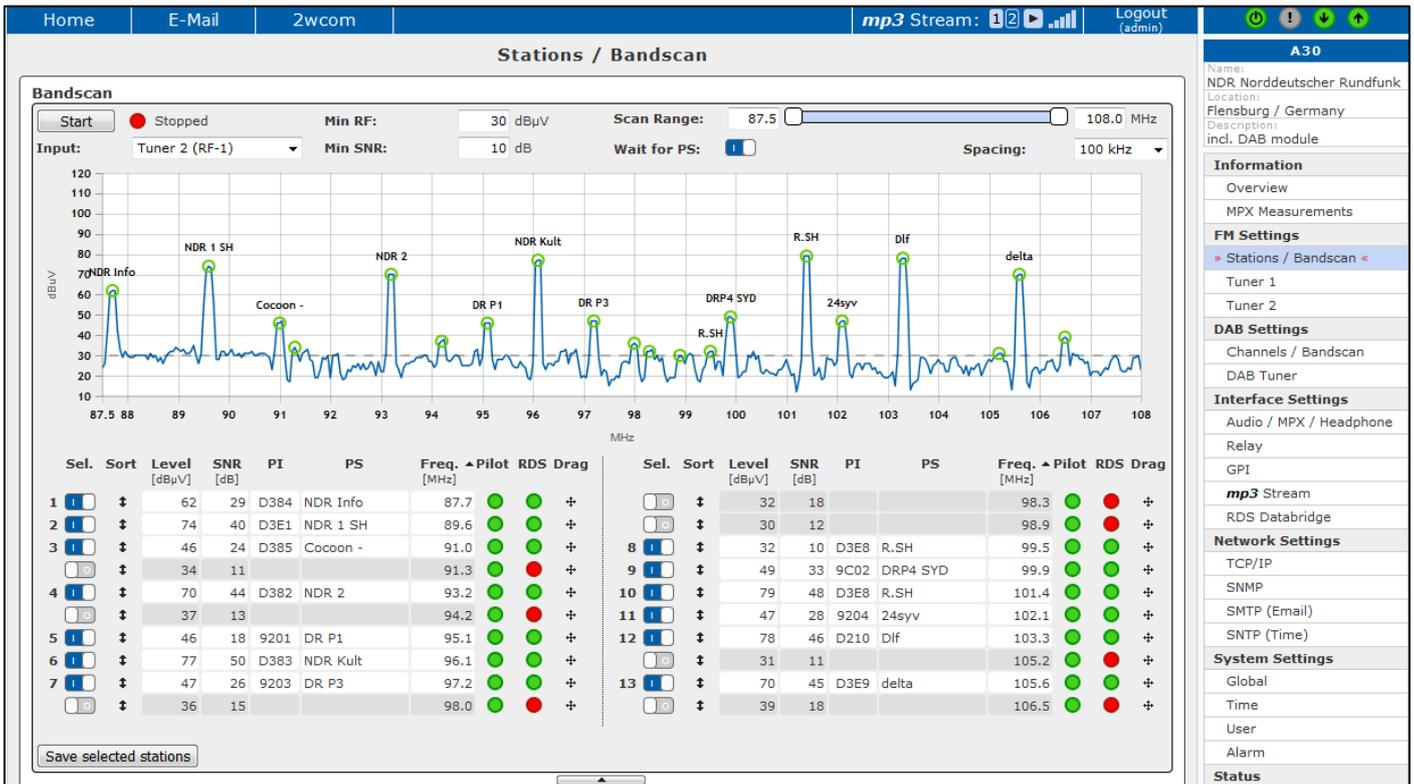

Fig. 10: "Bandscan" - Search of the available stations via scanning the frequency band
2. To ease the search of the available stations, use the function of "Bandscan" (see Fig. 10).